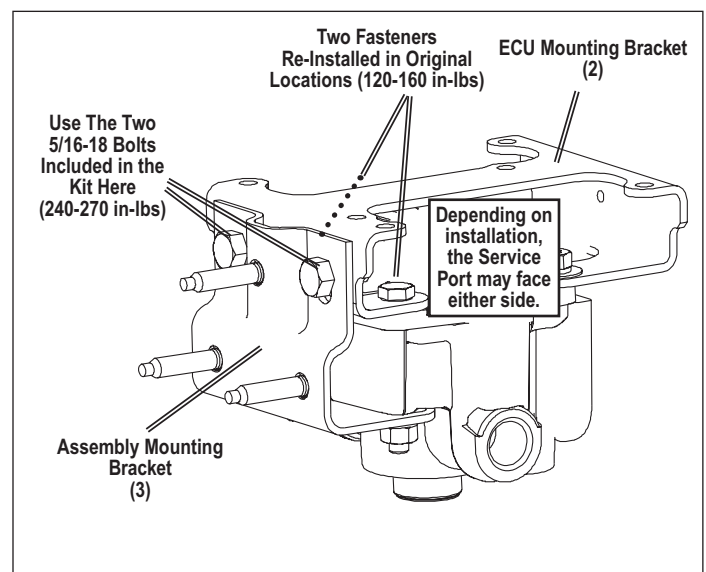

FIGURE 2 - VIEW SHOWING CONTROLLER BRACKET AND ASSEMBLY MOUNTING BRACKET INSTALLED
1. In most cases, the brackets supplied in the kit will allow the existing holes in the frame rail to be used. (See Figure 2.)
3. See Figure 2. The cover of the relay valve may need to be turned to one side or the other to help with the routing of the service connection.
5. See Figure 2. Secure the ECU Mounting Bracket (2) by re-using two of the fasteners — in the locations farthest away from where the mounting bracket is to be attached. Torque to 120-160 in-lbs.
6. Attach the Assembly Mounting Bracket (3), re-using the fasteners with locking nuts or lockwashers; torque to 120-160 in-lbs.